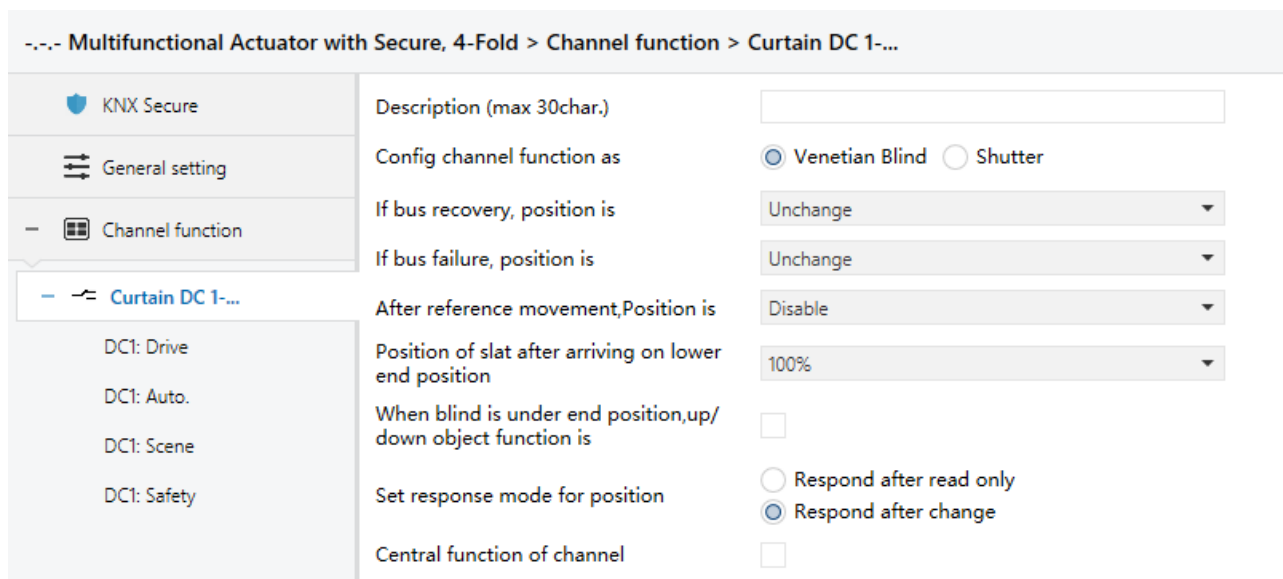

Fig. 4.7 Parameter window "Curtain DC X"
The curtain (DC) output has a maximum of 6 output channels, since the parameters and communication objects assigned to each output are the same as those of the curtain (AC) output, except that the parameters are not selected by the "Motor type" drive type. The parameter interface is shown in Figure 4.7.